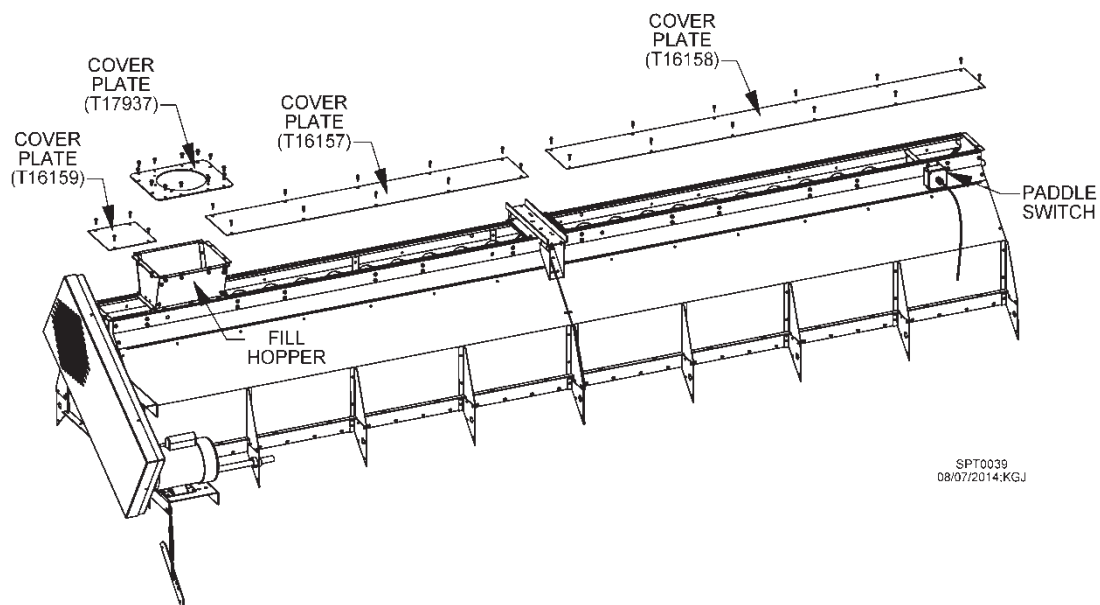
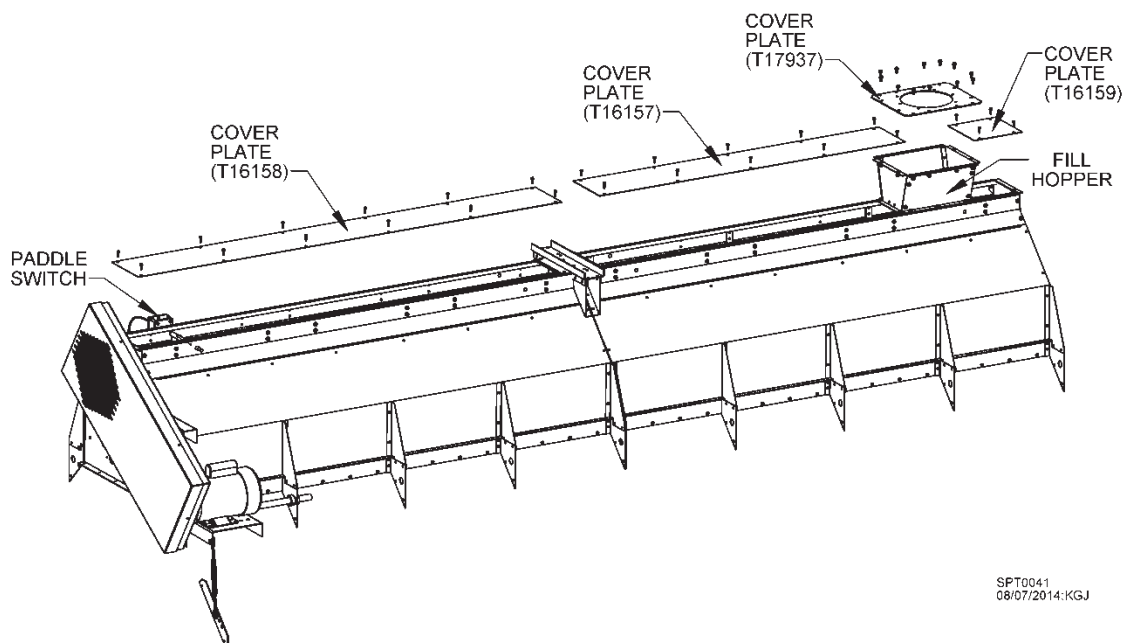

Fig. 2-24 – Fill hopper installation at front of wet bin (16' dryer shown)
Fig. 2-25 – Fill hopper installation at rear of wet bin (16' dryer shown)
5. Bolt fill hopper to top of wet bin on filling end of dryer. Place cover plates on top and attach with 1/4 x 1" self-drilling screws. See Fig. 2-24 for front-fill and Fig. 2-25 for rear-fill dryer.